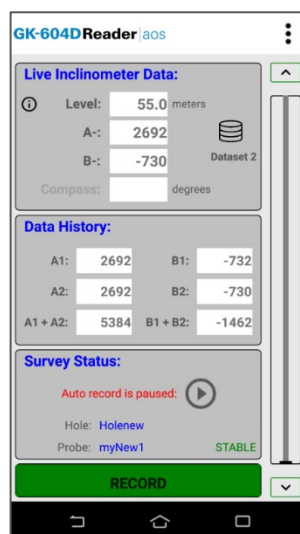

Figure 29: Auto Record Paused, Dataset 2 Selected
- 7) Tap the “Dataset 1” icon and observe that the red status text message will change to “Auto record is paused” and the “Pause” icon will change to the “Play” icon while “Dataset 1” becomes “Dataset 2” (Figure 29).